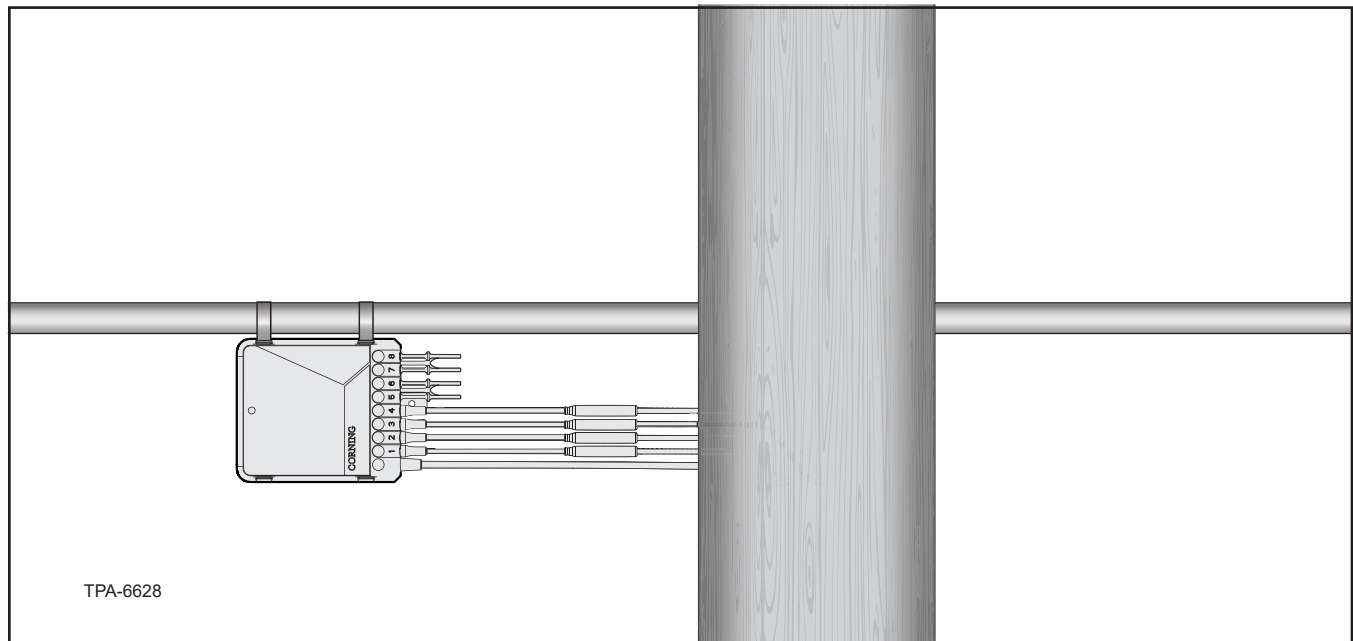

Figure 3
Step 2: Install the terminal as described below for your installation location (Figure 3).